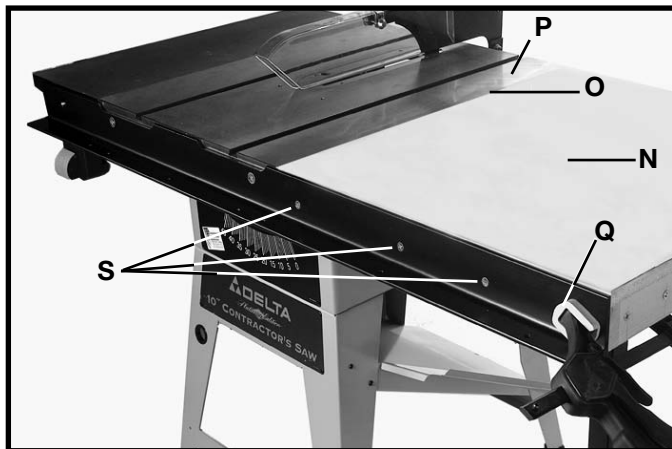
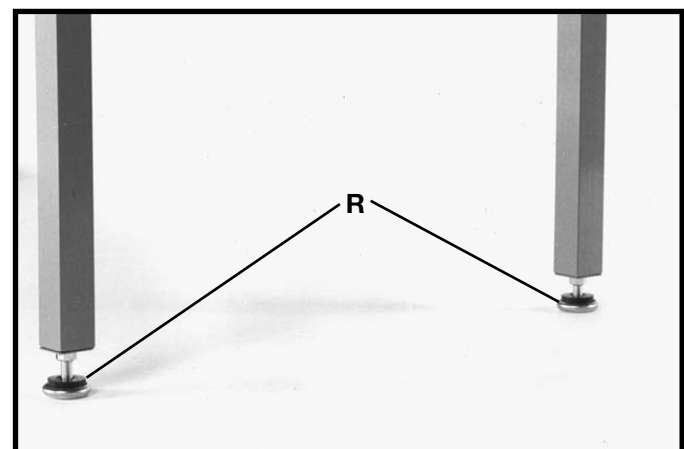

Fig. 85
Fig. 86
10. Place table assembly (N) Fig. 85, in position between the two rails. Make sure end of table (O) is flush against saw table (P). Use a bar clamp (Q) to snug up end of rails to hold table in position. Use a straight edge to make sure table (O) is in the same plane and level with saw table (P). Lightly tap table up or down, and adjust leveling screws (R) Fig. 86 in bottom of legs. When the table (O) Fig. 85 is level and in the same plane with saw table (P), tighten bar clamp (Q) to hold in position. Then drill 1/4" through-holes in the front and rear of the extension table, using the holes (S) provided in rails as template.